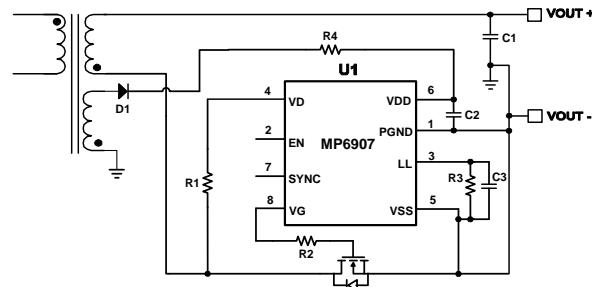
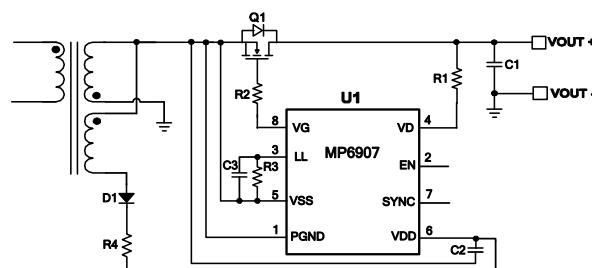

Figure 10: IC Power Derived from the Auxiliary Winding in Low-Side Rectification
Figure 11: IC Power Derived from the Auxiliary Winding in High-Side Rectification
If the output voltage is out of the VDD operating range or high-side rectification is used, an auxiliary winding solution for the IC's power supply is recommended (see Figure 10 and Figure 11). The auxiliary winding turn count ( $N_{au}$ ) can be set using Equation (2):